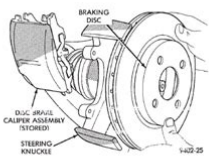

Fig. 20 Installing Braking Disc
(9) Install brake disc back on hub and bearing assembly (Fig. 20).
(10) Install disc brake caliper assembly on steering knuckle. Caliper is installed by first sliding top of caliper under top abutment on steering knuckle. Then installing bottom of caliper against bottom